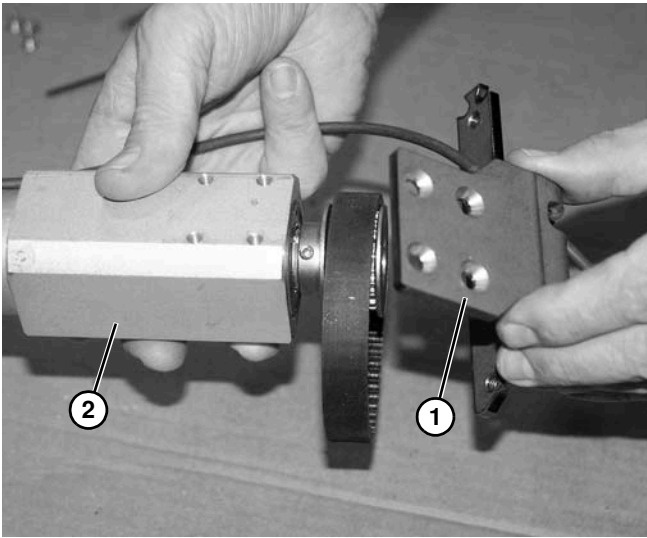

Figure 104
10. Remove motor mounting bracket (Figure 104, item 1) from motor (Figure 104, item 2).